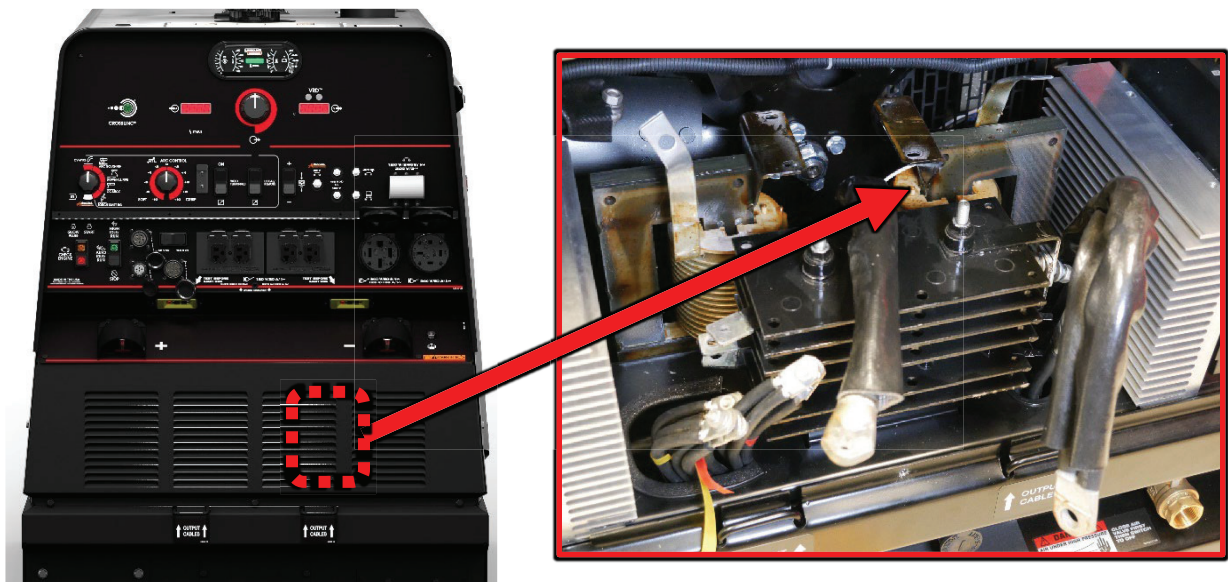

Figure F.1
1. For location of Choke B refer to Figure F.1.